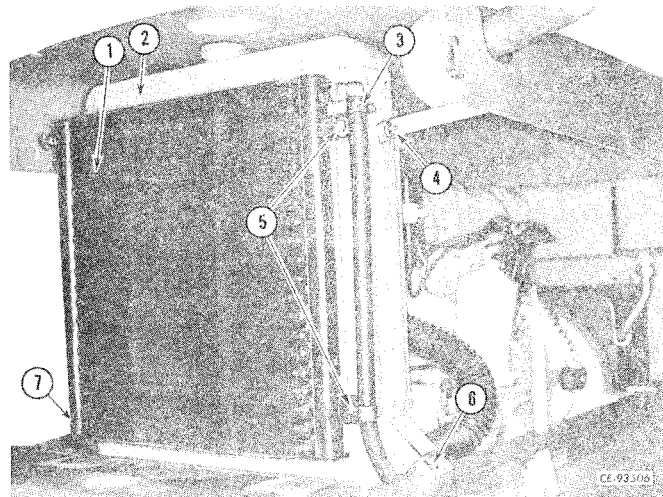

Figure 2-19
Loosen hose clamps (3, 7, Fig. 2-19) and disconnect lines. Remove cap screws (5). Remove oil cooler.
Loosen hose clamps (3, 7, Fig. 2-19) and disconnect lines. Disconnect radiator support brackets by removing cap screws (4). Remove cap screws and nuts (6) and remove radiator and oil cooler.
Secure oil cooler to radiator by installing and tightening cap screws (5, Fig. 2-19). Install oil cooler lines and tighten hose clamps (3, 7).
tighten cap screws (6, Fig. 2-19). Install oil cooler hoses; tighten hose clamps (3, 7) securely. Install and tighten cap screws (4) securing radiator to support brackets.